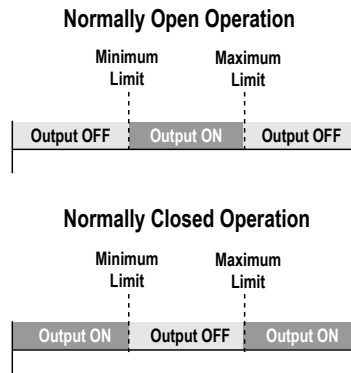
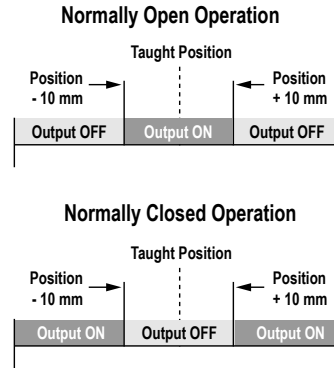

Figure 3. Teaching independent minimum and maximum limits
Figure 4. Using the Auto-Window feature for programming each output
The sensor can be configured for either normally open or normally closed operation via the remote teach wire (white). A series of three pulses on the line will toggle between normally open (NO) and normally closed (NC) operation. Normally open is defined as the output energizing when the target is present. Normally closed is defined as the output energizing when the target is absent. (See Figure 3. Teaching independent minimum and maximum limits on page 4 and Figure 4. Using the Auto-Window feature for programming each output on page 5.)